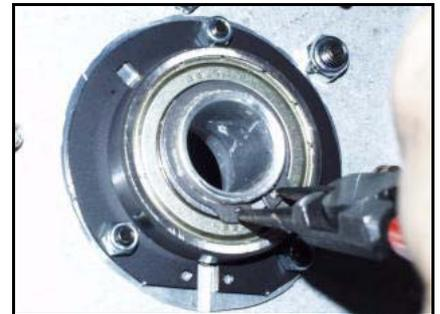

Fig. 85 Remove circlip
- 7 Remove the circlip from the tilt axle. (Fig. 85)